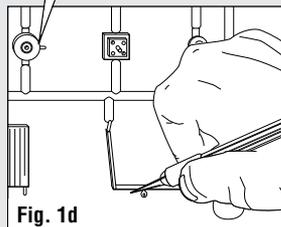

Fig. 1d
- Remove the small sprue piece from the Awning Support ③ using a hobby knife, then discard. (**Fig. 1d**)